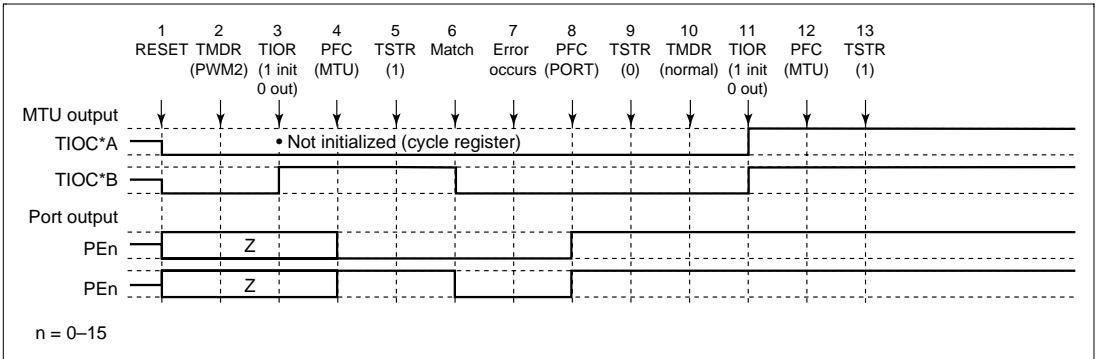

Figure 10.68 Error Occurrence in PWM Mode 2, Recovery in Normal Mode
(9) Operation when Error Occurs during PWM Mode 2 Operation, and Operation is Restarted in Normal Mode: Figure 10.68 shows an explanatory diagram of the case where an error occurs in PWM mode 2 and operation is restarted in normal mode after re-setting.
1 to 9 are the same as in figure 10.68.
- 1 to 9 are the same as in figure 10.68.